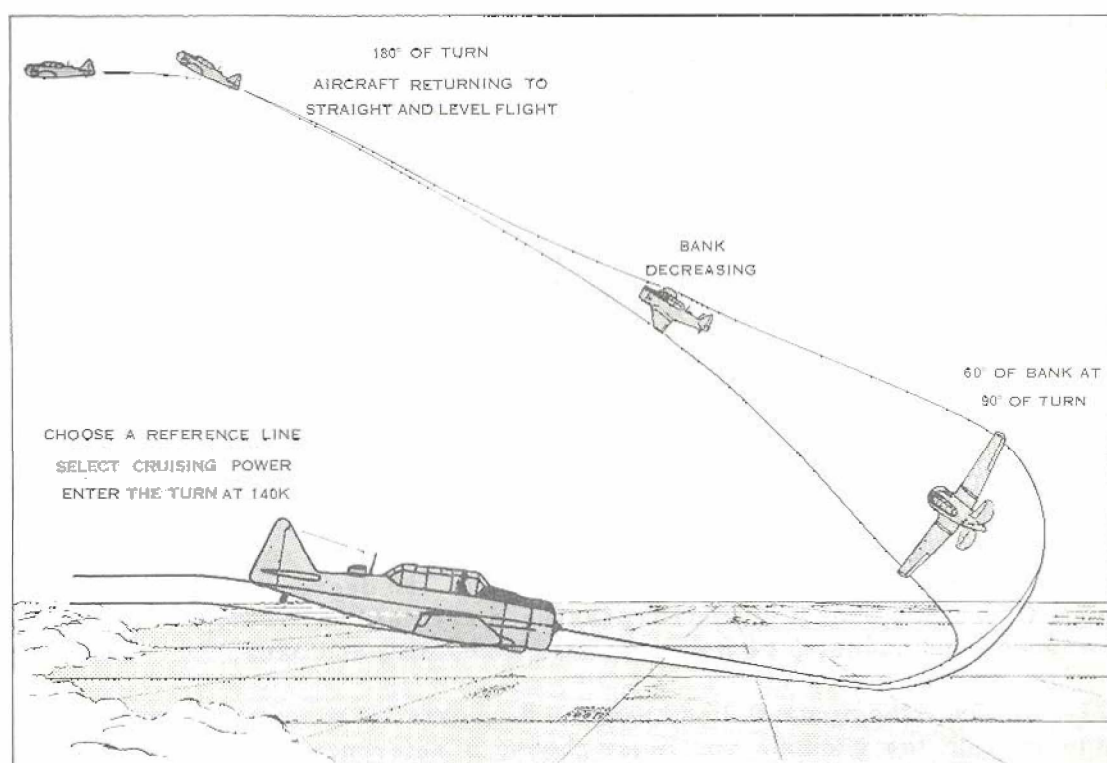

Figure 1: The Chandelle
(1) The Chandelle is a precision 180 degree, climbing turn giving a maximum gain in altitude. From straight and level flight the aircraft is flown parallel to a reference line, such as a straight road or a section line, and is put into a shallow dive. When the airspeed reaches 140K, you must blend aileron, rudder and elevator pressures, simultaneously, to begin a climbing turn in the desired direction. (Figure 1 opposite) Keep the nose rising and the bank increasing steadily until there is 60 degrees of bank at 90 degrees of turn. As you approach this point, the vertical component of lift decreases to such an extent that you must apply back pressure to keep the nose rising at a constant rate.
(2) As soon as the aircraft has turned through 90 degrees, begin to roll off the bank, but still keep the nose rising at the previously established constant rate. With the decrease in bank the vertical lift component increases slightly, and the amount of back pressure on the control column must be relaxed if you are to keep the nose from rising too rapidly. You must time the roll-out so that the wings are level upon reaching 180 degrees of turn, and the nose is at its highest pitch attitude. Hold this attitude momentarily, then lower the nose to level flight before the aircraft stalls. It should not be necessary to lower the nose to prevent a stall before the wings are level.
(3) Proper use of the rudder throughout the manoeuvre is required for true co-ordination. For example, if you are to do a Chandelle to the left, a normal amount of left rudder is needed to offset the effects of aileron drag